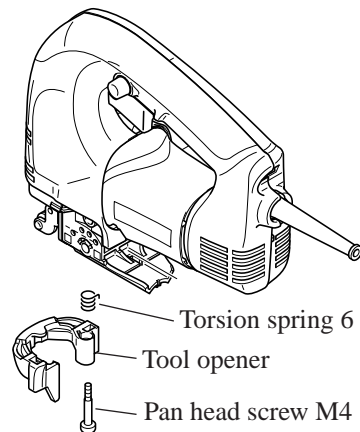
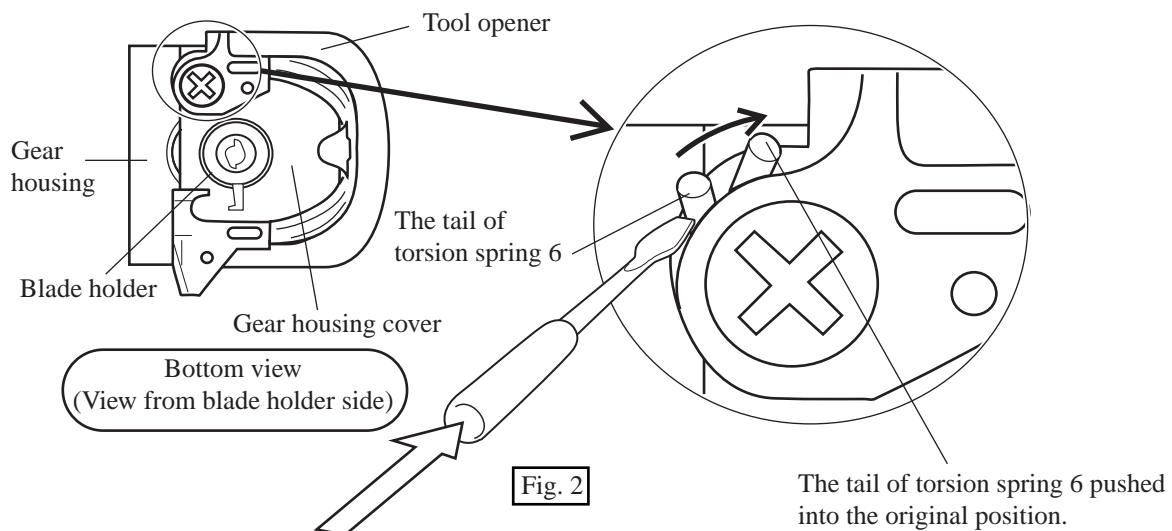

Fig. 1A
Fig. 2
2. Unscrew pan head screw M4. Then tool opener and torsion spring 6 can be disassembled. See Fig. 1A.
1. Put torsion spring 6 into tool opener . And fasten tool opener with pan head screw M4. See Fig. 1A above.
2. Bring the tail of torsion spring 6 which is extruding from tool opener, to the original position by turning it clockwise. See Fig. 2.
1. Assemble tool opener to gear housing cover with referring to Fig. 1A and Fig. 2 at page 6.